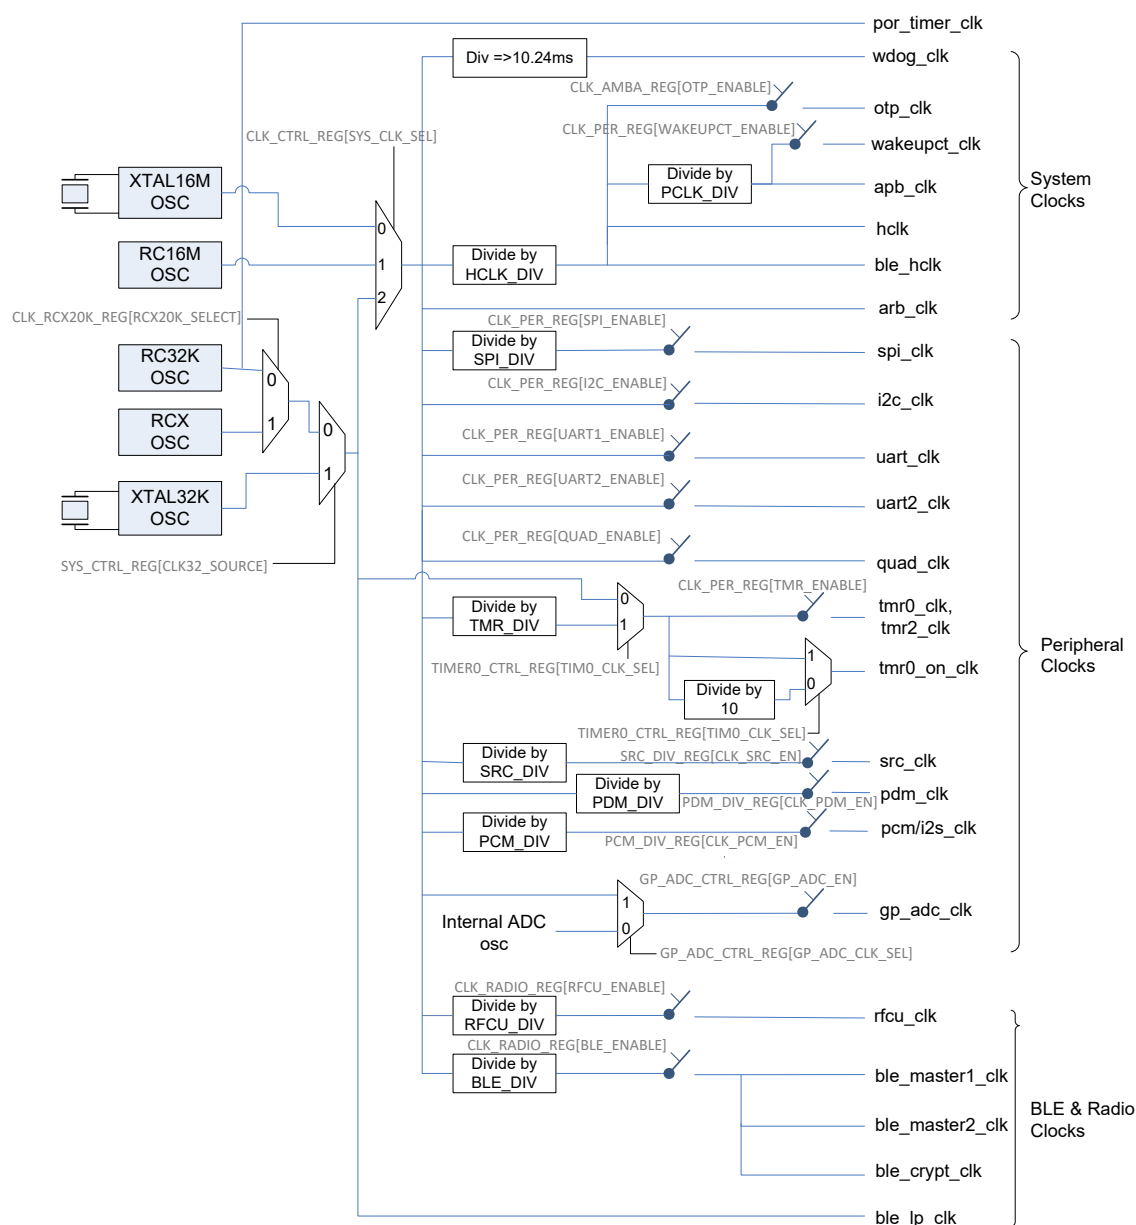

Figure 20: Clock Generation Block Diagram
The clock names depicted in Figure 20: Clock Generation Block Diagram are explained in Table 32:
- When the SPI block is set to Slave mode, then the spi_clk (as depicted in Figure 20) should be at least 4x the clock frequency provided by the external SPI Master. This is required for proper sampling of the data line.